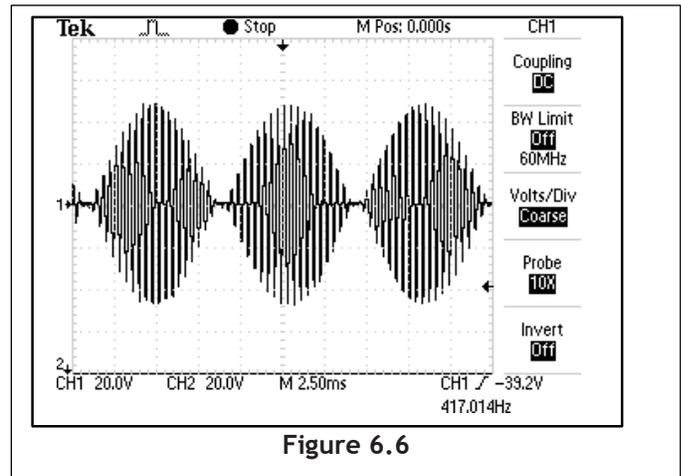

Figure 6.6
6. Compare waveform on scope to **Figure 6.6**.
1. Waveform is the same between scope and **Figure 6.6**.